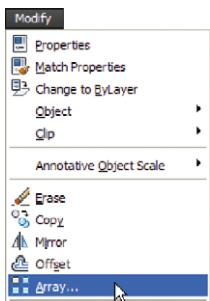
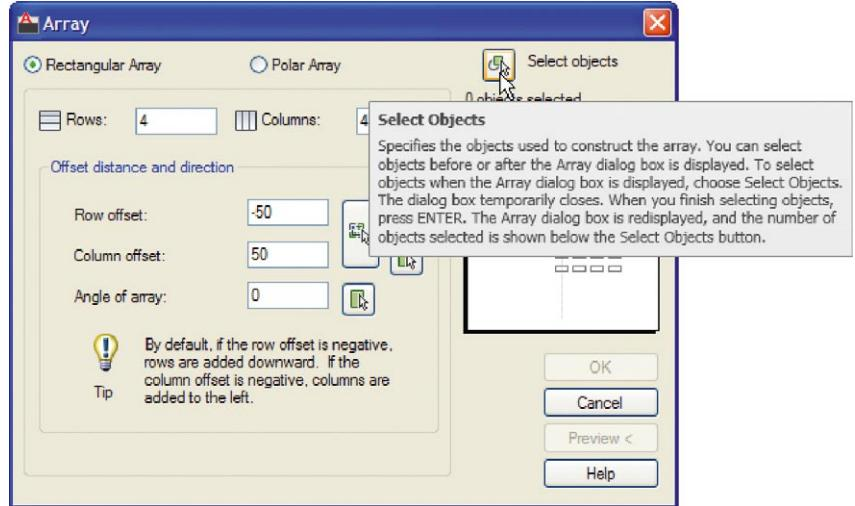

Fig. 5.16 Selecting Array from the Modify drop-down menu
Fig. 5.17 First example – the Array dialog
First example – Rectangular Array (Fig. 5.17)
2. Call the **Array** tool – either *click Array* in the **Modify** drop-down menu (Fig. 5.16), from the **Home/Modify** panel, or *enter ar* or **array** at the command line. The **Array** dialog appears (Fig. 5.17).